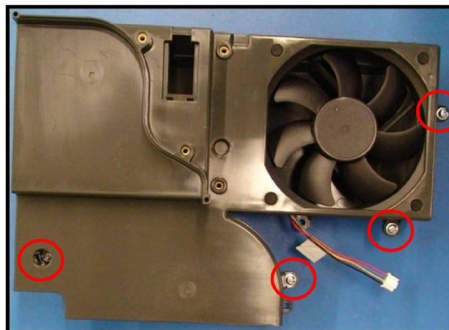

Figure 9 Secure Ducts with Screws
11. Secure the two duct pieces with (4) Screws @ 8in-lbs as shown in Figure 9.